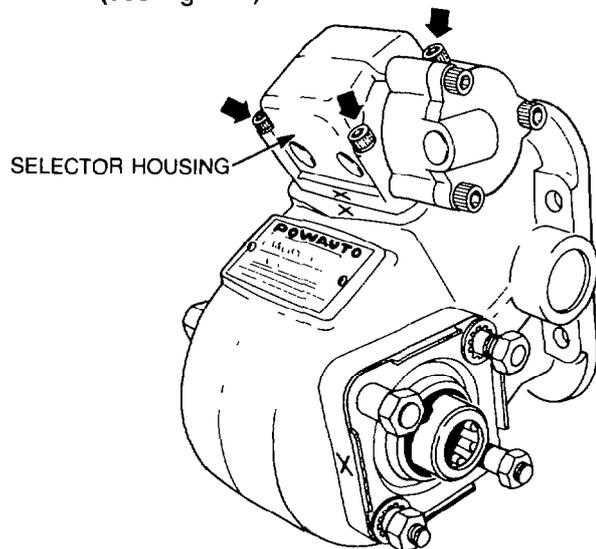

Figure 187 — Selector Housing — Removal
c. Remove the four socket-head bolts securing the selector housing to the PTO and remove the selector housing (see Fig. 187).